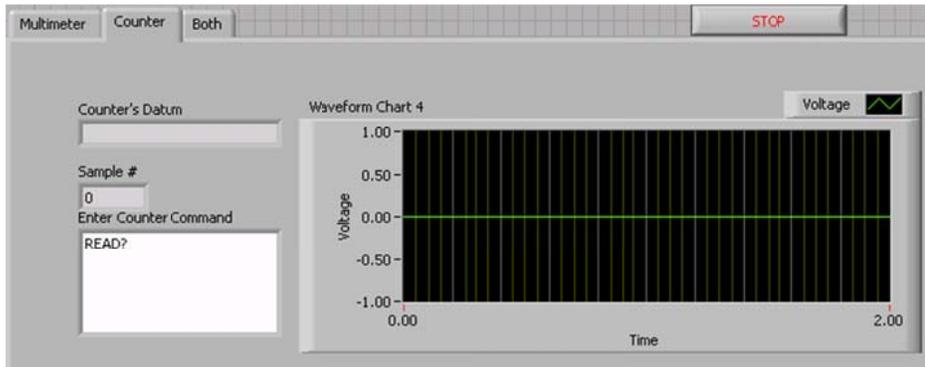

Figure 4. Counter Mode
- ii. Counter Mode (Figure 4): similar to multimeter mode, the counter mode will establish communication exclusively with HP 53131A universal counter.